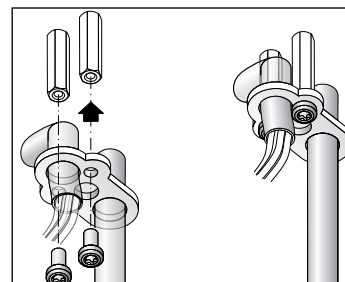

Figure 3: Support Hook
7. Relieve the strain on the luminaire power cable by using a T10 Torx screwdriver, loosen the strain relief screws on both steel couplers. [Figure 3]
8. Secure cable by tightening both steel couplers and screws. [Figure 3]